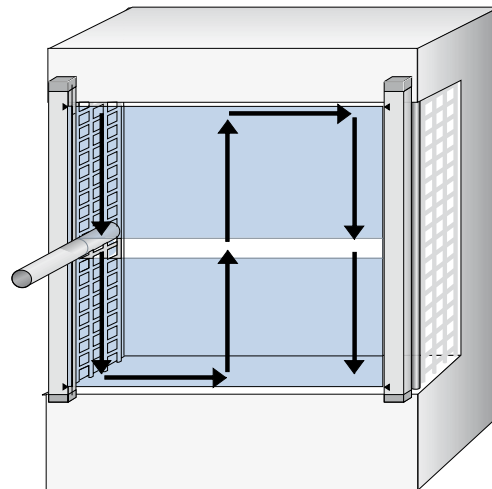

Figure 17: Test rod check: Step 1
1. Move the test rod slowly through the protective field to be protected (e.g., machine opening as indicated by the arrow, see figure 17, page 29).